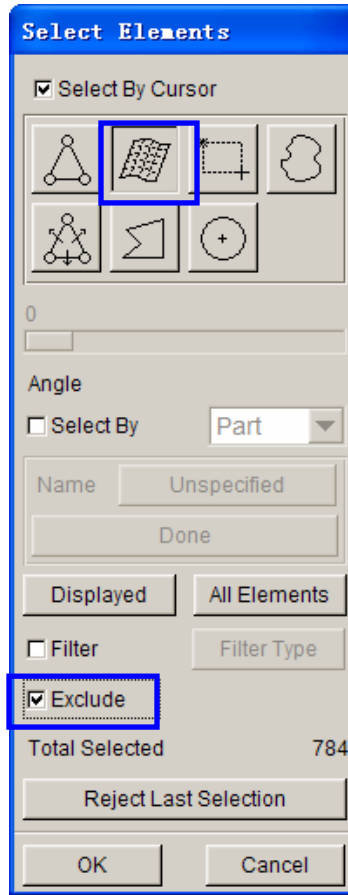

Figure 81: Select elements dialog box
- Next, you need to remove elements on the flanges of the part. Toggle on **EXCLUDE** option (shown in Figure 81). Then, click the **Surface** icon in the **Select Elements** dialog box.